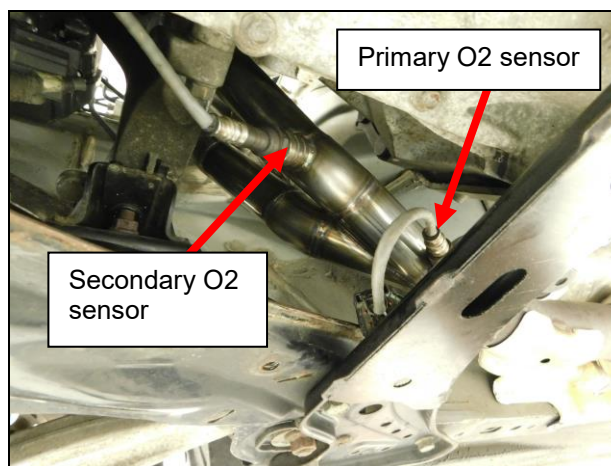

Figure 2
1. Apply a small amount of anti-seize to the threads of the O2 sensor (be careful not to get anti-seize on to the O2 sensor head). Install the primary O2 sensor into the header collector at the 4 o'clock position (**Figure 2**).
3. Install the secondary O2 sensor (the sensor after the cat) into the extended O2 bung at the first merge and plug the sensor into the vehicle harness (**Figure 2**).